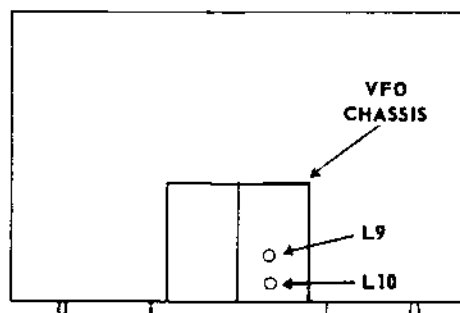

FIG. 2. TOP VIEW OF POWER SUPPLY SECTION
h. Adjust the slug of coil L10 (Refer to Fig. 2 for location) for maximum drive to the oscillator stage of the transmitter as determined by the maximum amount of oscillator plate current dip.
j. Adjust the slug of coil L9 (Refer to Fig. 2 for location) for maximum drive to the oscillator stage as in step h.